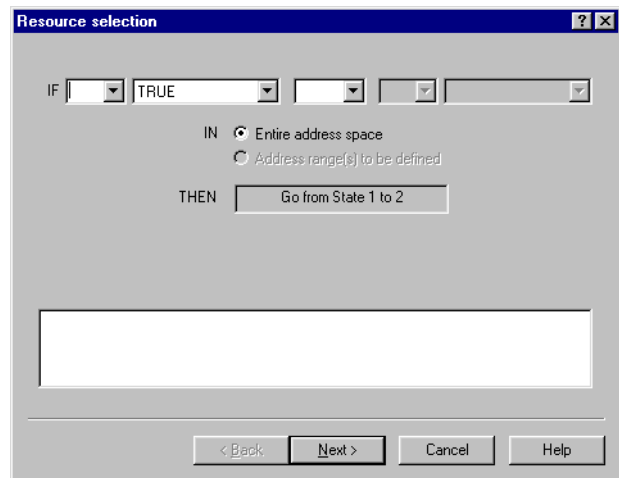

Figure 8-36 Resource selection for Go from State 1 to 2
2. Double-click **Go from State 1 to 2** in the Actions list to define a rule. The Go from State 1 to 2 Resource selection dialog box shown in Figure 8-36 is displayed.